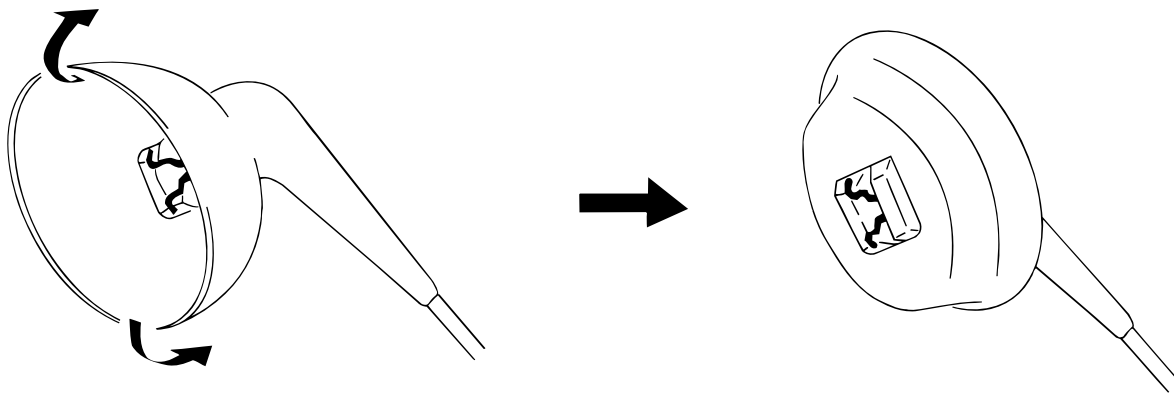

Figure 3-4
- (4) Turn over the rubber cap symmetrically on the left and right. (See Figure 3-4)